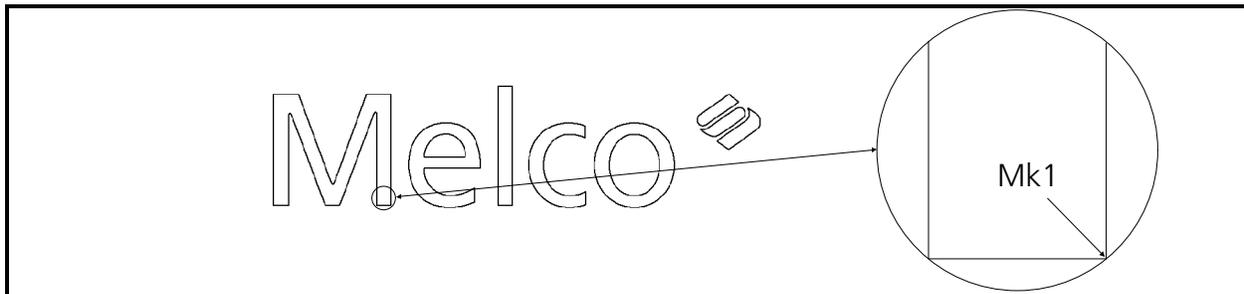

Figure 3-12
2. Enter a Mk1 at the location on the artwork where you want to "start" the design. This identifies the location for the needle entry starting the first stitch. In our example, we will enter in the lower right leg of the capital letter **M** (see Figure 3-12).
1. Enter a Mk1 in the [Normal Stitch] box at the tablet menu. This will generate a stitch between the previous Mk1 (see Figure 3-12) and the next Mk1 when the second Mk1 is made.